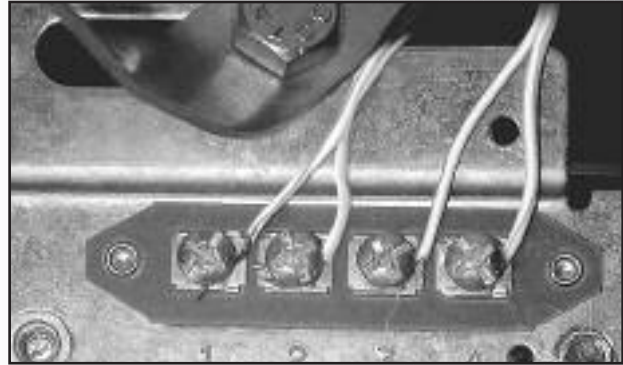

Fig. 4-2
- 3. Attach wires to terminals. Fig. 4-2, Fig. 4-3.**